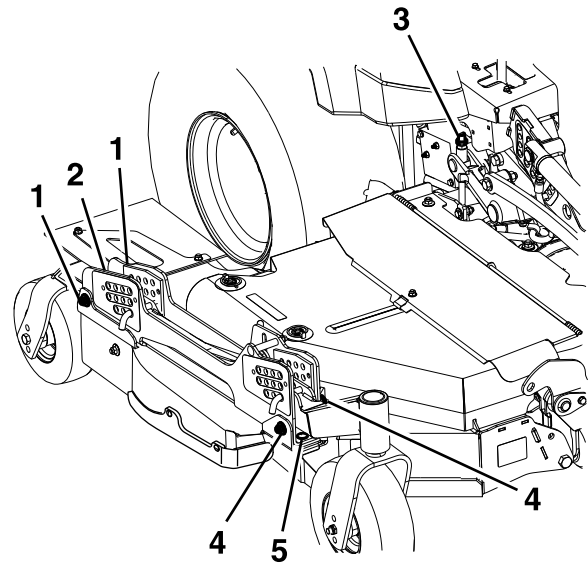

Figure 74
3. The left and right wing decks have blade height adjustments with front and rear adjustment points. To adjust the wing-blade height, first loosen the front and rear height-of-cut hanger mounting nuts. There are 4 locations (2 on each side of the channel) as shown in Figure 74.
- If the deck is too low, tighten the front height-adjustment bolt (Figure 74) by rotating the bottom nut clockwise.
- If the deck is too high, loosen the front height-adjustment bolt (Figure 74) by rotating the bottom nut counterclockwise. Fine-tune the rear adjusters as required.
Adjust the rear wheel height (Figure 74) so that the rear wheel lightly touches the ground with minimal pressure.
4. Measure the back of the wing blades. If either has less than 1.5 mm (1/16 inch) rake, raise the rear of the deck by tightening the left and right rear adjustments (Figure 74) until all 4 blades have a minimum of 1.5 mm (1/16 inch) rake. Adjust the rear wing wheels so that they lightly touch the ground with minimal pressure. Tighten all 4 rear hanger-mount locations (Figure 74).